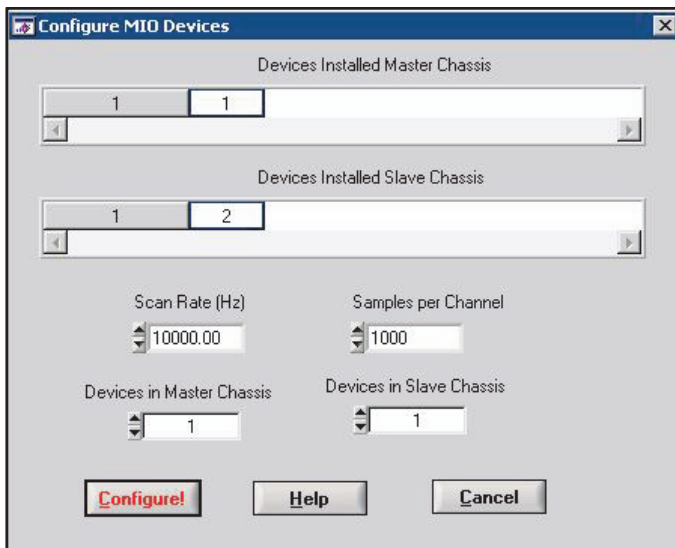

Figure 6-2. Configure MIO Devices Dialog
2. Click on **Configure MIO Devices**. This brings up another dialog for configuring the acquisition devices in the master and slave chassis (refer to Figure 6-2).